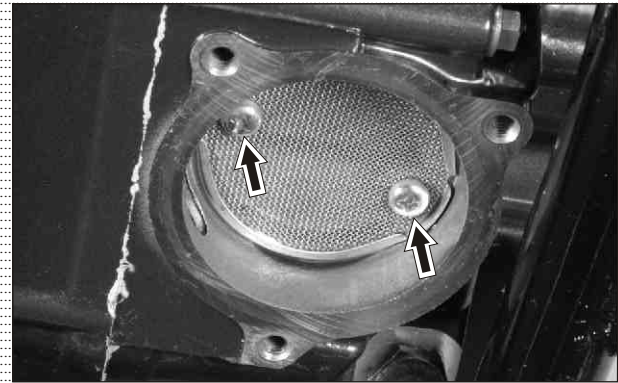

Fig. 2.35
- Loosen CRR pan head screw (M4x10 - 2 nos.) and remove the strainer complete engine oil. (Fig. 2.35) Inspect strainer for any damage. Replace if necessary. Otherwise clean and reassemble in the reverse order of removal.